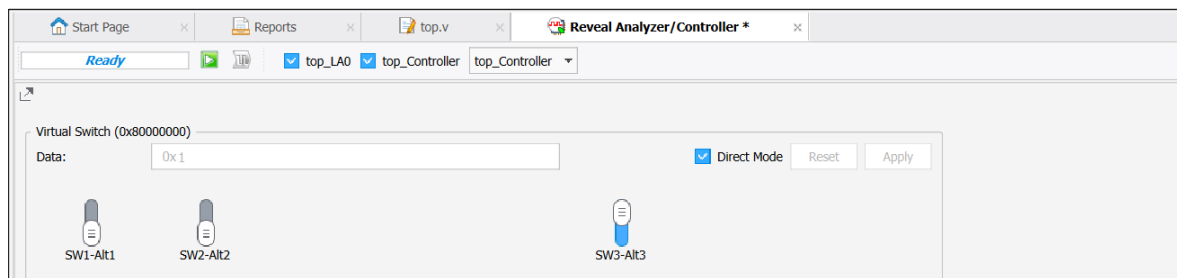

Figure 7.9. Toggle SW3-Alt3
- a. Toggle SW3-Alt3 in top_Controller (Figure 7.9).
- b. Toggle SW3-Alt3 in top_Controller to boot using Alternate Pattern 3 (Figure 7.9).